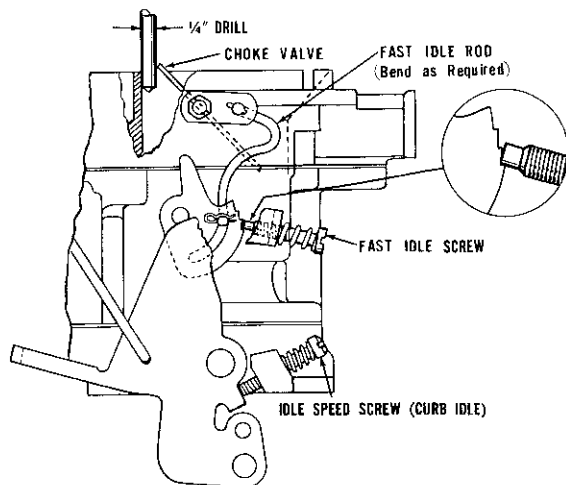

Fig. 31—Fast Idle Speed and Cam Position Setting
FAST IDLE SPEED AND CAM POSITION ADJUSTMENT (Fig. 31)
(1) Turn the idle speed adjusting screw out far enough to clear the throttle lever tang when the throttle valves are closed.
(2) Hold the throttle valves in the closed position, and turn the fast idle adjusting screw out until the fast idle cam can be positioned as shown (Fig. 31).
(3) From the point of initial contact with the step of the cam, as shown, turn the fast idle screw in 3 1/2 turns.
(4) With the fast idle screw held in the position illustrated, move the choke valve (with light pressure) toward the closed position and insert a 1/4 inch drill between the choke valve and the wall of the air horn.
(5) If an adjustment is necessary, bend the fast idle rod at the upper bend, using Tool T109-213, until correct opening has been obtained.